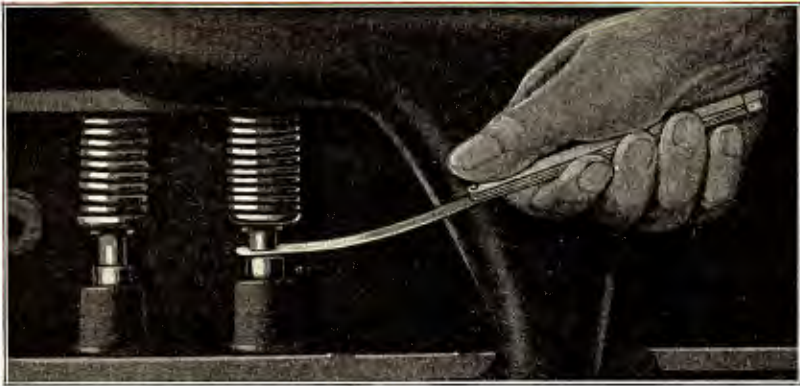

Fig. 225
- 372 After grinding the valves, the clearance between ends of push rods and valves should be checked. This can be done by inserting thickness gauges (See Fig. 225) between ends of valves and push rods. The clearance should not be greater than $\frac{1}{32}$ " or less than $\frac{1}{64}$ ".